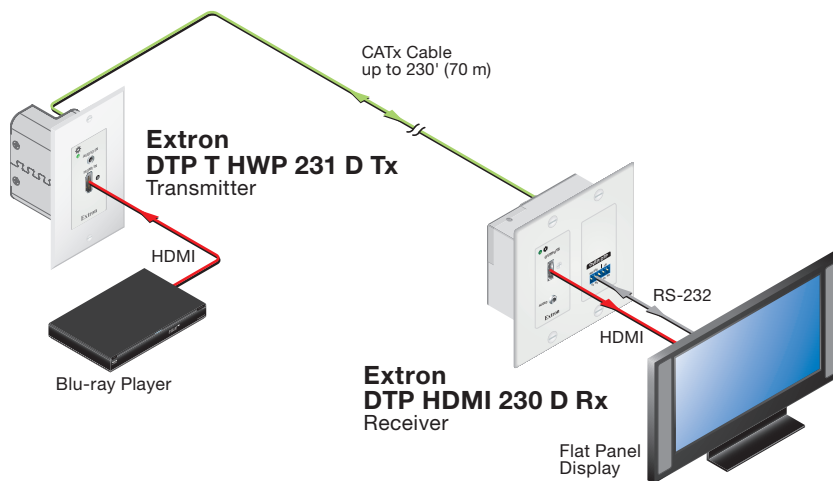

Figure 1. A Typical DTP T HWP 231/331 D Point-to-Point Application
The Extron DTP T HWP 231 D and 331 D extenders are HDMI transmitters (see figure 1) which are housed in enclosures that can be mounted in Underwriters Laboratories (UL) standard wall boxes with Decora®-style face plates. A transmitter paired with a compatible receiver extends the usable distance of HDMI digital video and RS-232 or IR control signals over one shielded twisted pair (STP) cable.